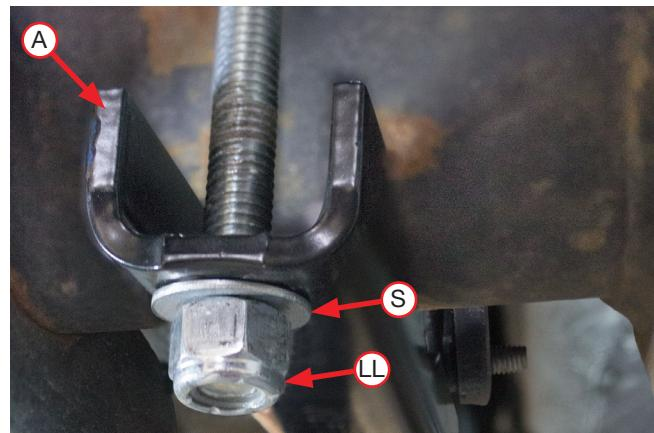

Fig. 32
If you have a sway bar, insert the carriage bolts through the clamp bar (A) as you set the assemblies into position over the axle (see Fig. 32).
7. If not already completed (sway bar noted earlier), set the lower clamp bars (A) over the carriage bolts located under the axle (fig 32). Attach with 3/8" flat washers (S) and nylon lock nuts (LL). Evenly torque the lower clamp bar hardware to 16lb.-ft. (22Nm).